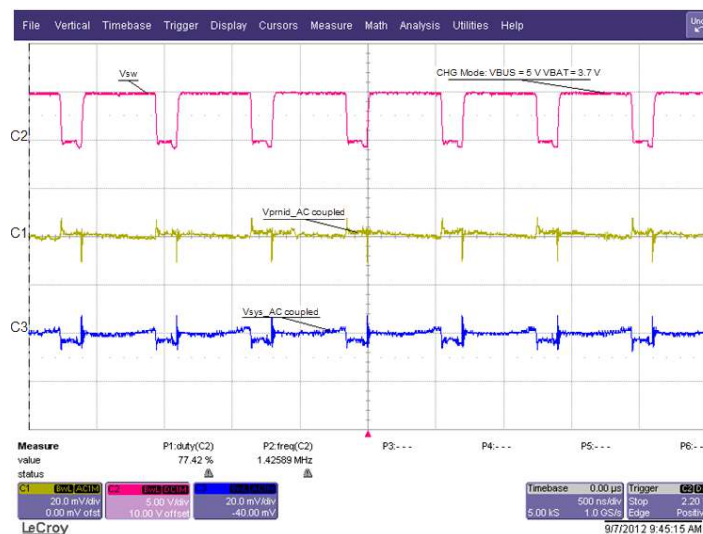

Figure 5. CHG Mode Ripple and Duty Cycle: V_{BUS} = 5 V, V_{BAT} = 3.7 V
- Step 5. Verify scope measurements (See Figure 5 – 500 ns/div)